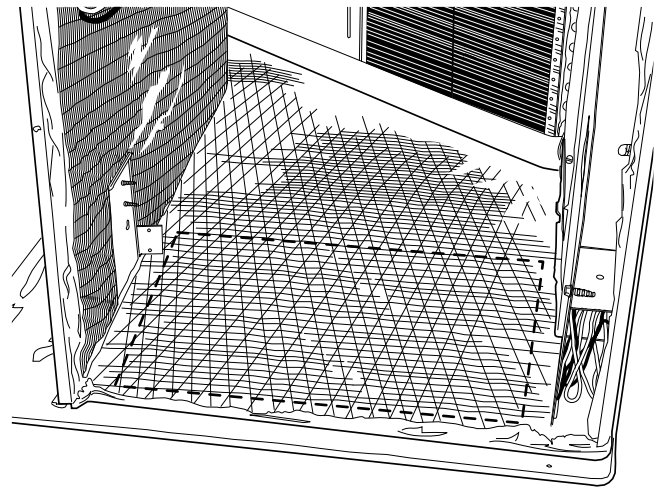

Fig. 21 — Basepan Insulation Over Vertical Discharge Opening
8. Locate lances in basepan insulation that are placed over the perimeter of the vertical discharge opening cover (Fig. 21).